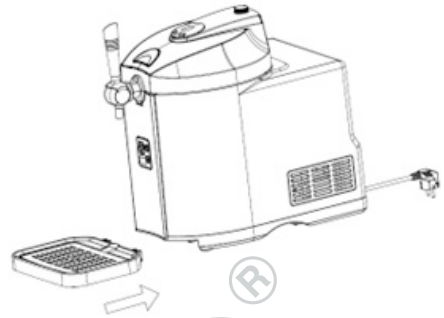

Fig. 2
7. Set the drip grate in the drip tray. Then push the drip tray into the bottom of the appliance until it is firmly seated. (Fig. 2).